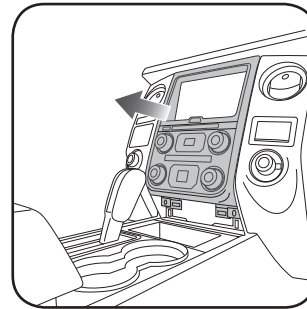

Fig. 1.3
2. Unclip and remove the radio and climate control panel, starting from the bottom. Unplug the connectors. (Fig. 1.3)